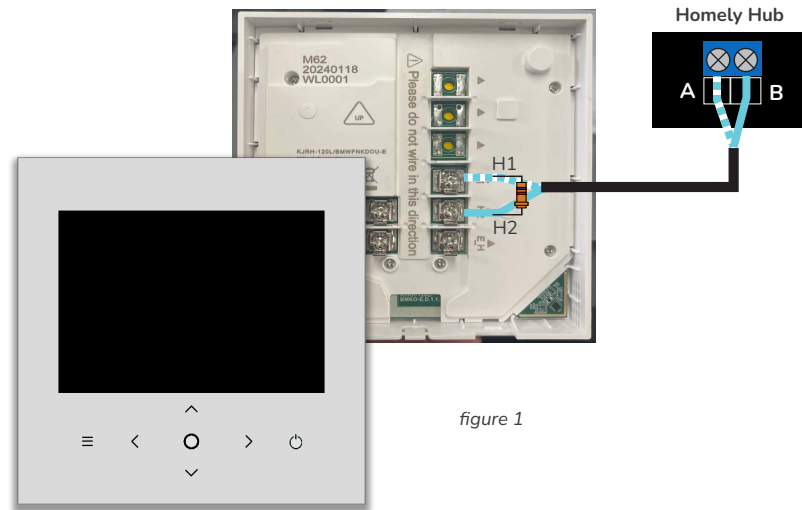

figure 1
3. Connect the supplied 120-ohm resistor between the heat pump controller terminals as shown (figure 1).